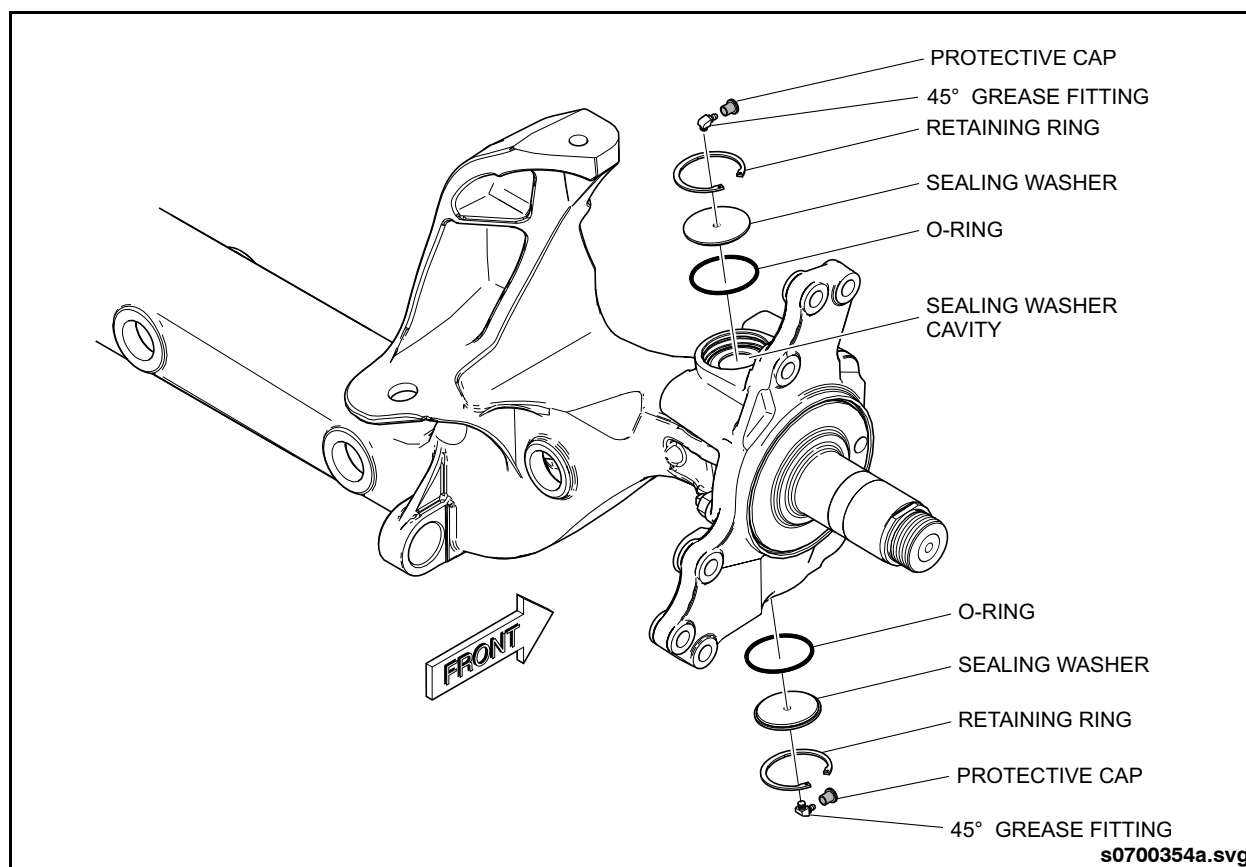

Fig. 1: Steering Knuckle Lubrication
1. Remove upper and lower dust caps, if installed, and discard. See “Fig. 1: Steering Knuckle Lubrication” on page 2.